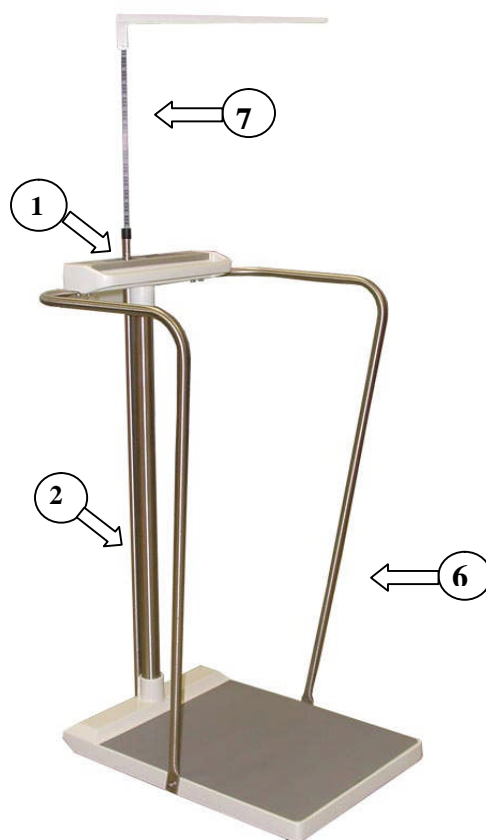

Figure 4: Handrail/Height Bar Diagram
| Figure 4: Handrail/Height Bar Diagram | 6 |
STEP 1: (Figure 4) Attach top of each of the Handrails (6) to the bottom right and left of the Display Unit (1) with the two (2) screws and two (2) split-lock washers on each side and slightly tighten. (Do not tighten all of the way.)
STEP 2: Attach the bottom of the Handrails to the right and left side of the Base Assembly using one (1) screw and one (1) split-lock washer for each handrail. Tighten all six (6) screws securely.
STEP 1: (Figure 4) Remove the set screw on the back of the Display Unit (1) and in the Base Assembly (2).
STEP 2: Slide the Height Bar (7) down through the hole in the Display Unit and seat firmly into the Base Assembly. Apply a small amount of Loctite® to the two (2) set screws and reinstall, tightening securely.